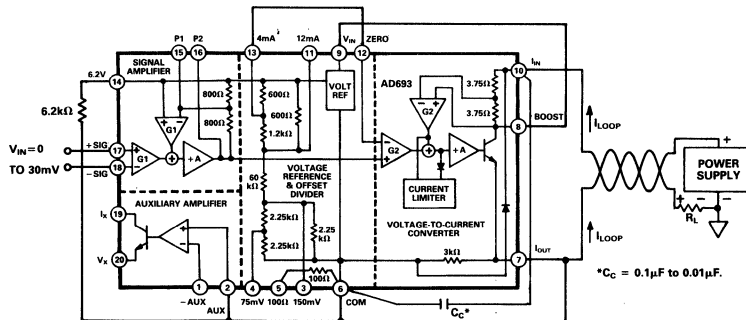

Figure 10. Minimal Connection for 0–30mV Unipolar Input, 4–20mA Output
- 6The operational voltage ( $V_{OP}$ ) is the voltage directly across the AD693 (Pin 10 to 6 in two-wire mode, Pin 9 to 6 in local power mode). For example,  $V_{OP} = V_S - (I_{LOOP} \times R_L)$  in two-wire mode (refer to Figure 10).
Figure 10 shows the minimal connections for basic operation: 0–30mV input span, 4–20mA output span in the two-wire, loop-powered mode. If not used for external excitation, the 6.2V reference should be loaded by approximately 1mA (6.2kΩ to common).